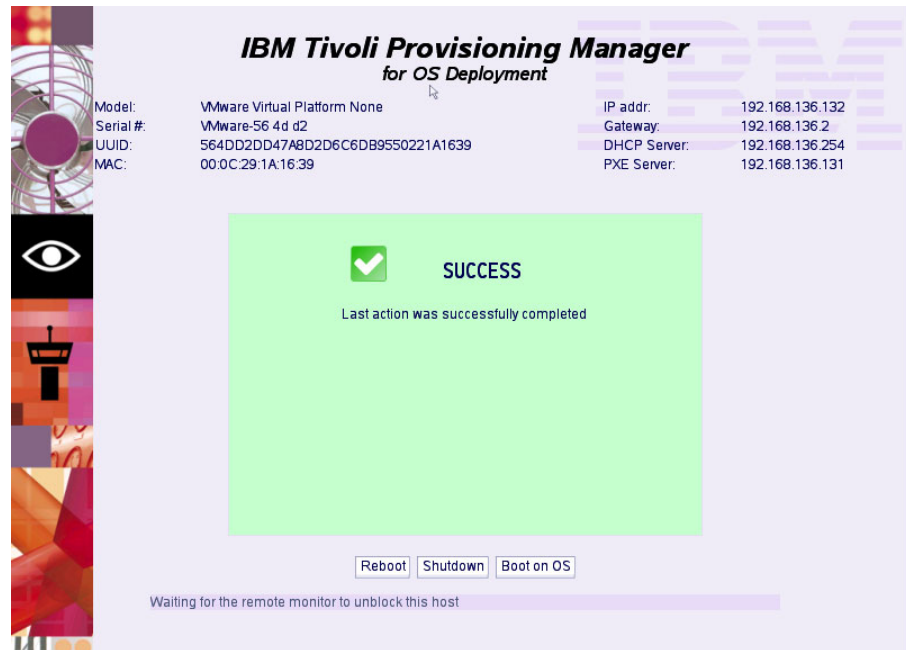

Figure 3-25 Green banner on the target after successful deployment
9. The system will execute several reboot cycles and you may notice that fundamental setup information will be automatically entered by the build process handled by Tivoli Provisioning Manager for OS Deployment. When the deployment is completed you should see a green banner on the target system indicating the deployment was successful as shown in Figure 3-25 on page 82.